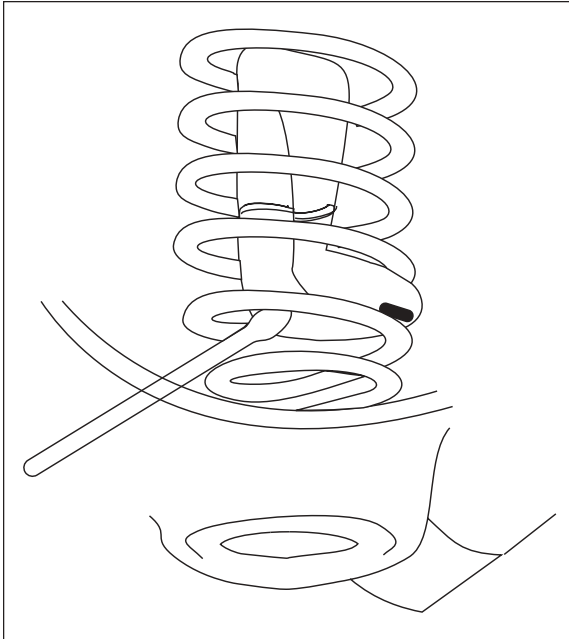

Figure 1
4. Insert flattened air cylinder into coil spring through lowest opening with stem at the bottom (Figure 1).